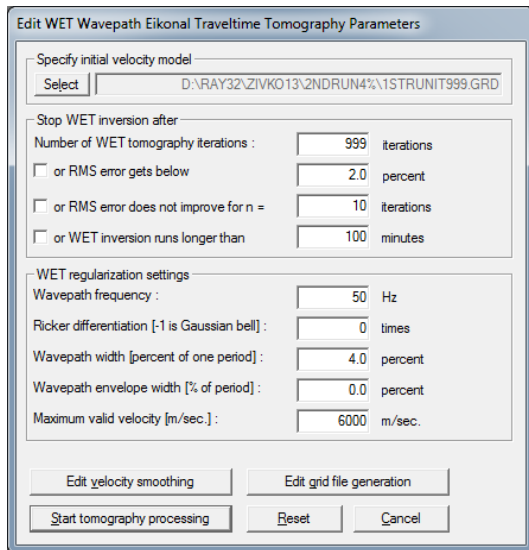

Fig. 8 : WET settings for 2nd run
- select *WET Tomo|Interactive WET tomography* and configure as in Fig. 8